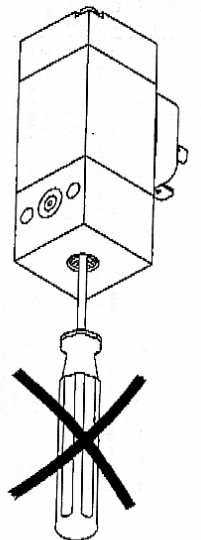

Fig 5. Attention
- 3) Be careful not to insert Driver before remove the screw and the cap, see Fig 5.